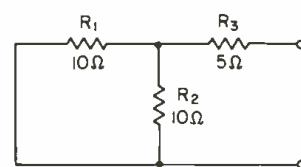

Figure 2
Step 3. Find the resistance looking back in with the voltage source  $E_1 = 0$ . (remember, a voltage source is defined as a constant voltage with an internal resistance of zero ohms.) The circuit becomes as shown in FIGURE 2.